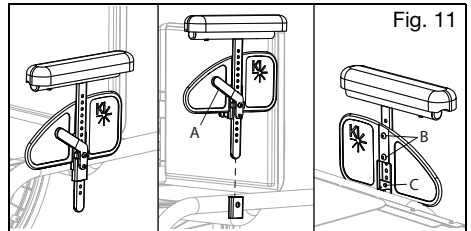

Fig. 11
- a. Slide the armrest into the receiver on the side frame. Ensure the pin in lever engages the receiver (Fig. 11).
- a. Push the lever (Fig. 11:A) in towards the side guard panel to release the pin from the receiver.
- b. Remove two 6mm screws from the side guards (Fig. 11:B).
- c. Remove M4 screw (Fig. 11:C) from the side guard post stop through the side guard post but do not remove entirely. The screw can stay in the lever assembly. Repeat on the other arm.
- d. Reset the post stop and the lever assembly on the side guard post to desired position. Retighten M4 screw (Fig. 11:C). Repeat on the other arm.
- e. Place the side guard in the desired position and replace two 6mm screws (Fig. 11:B) to secure the side guard in place. Tighten two 6mm screws. Repeat on the opposite arm.
- f. Replace the armrest assemblies into the receiver (Fig. 11).